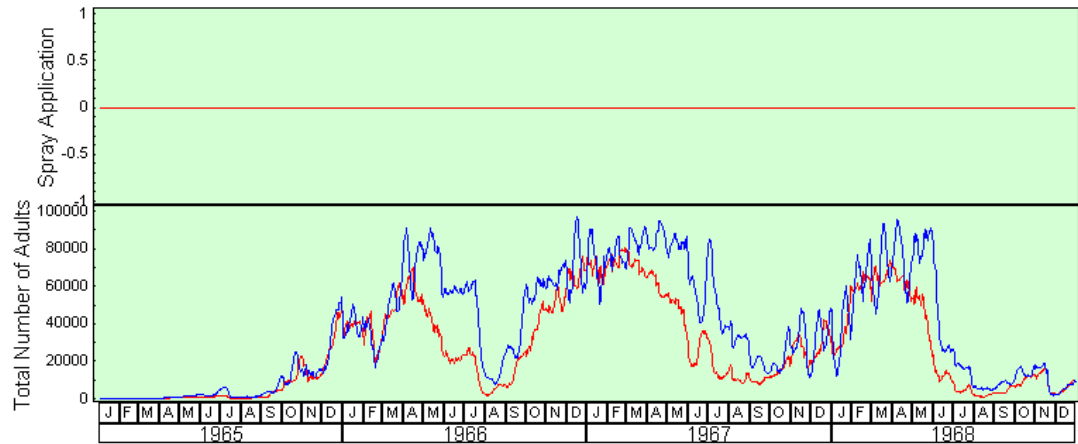

Figure 10-2 Aphid population over 4 years with no treatment
Click on the “Chart” button or menu item and select the “Population and Spray” chart from the popup menu (the format was saved in the previous tutorial). The chart should appear as in Figure 10-2.
A “Run Sequence” is a series of runs over the same period, but where some variable, parameter or other condition is varied in a systematic way. At the end of this series of runs, the “Run Summary” variables for each run in the series are available for tabulation or charting. In order to control the pseudo-aphid population, insecticide spraying has to be carried out, however the timing of the spray can be important for it to be most effective. Since pseudo-aphid populations rise and fall with the seasons (Figure 10-2), a simple way to find out where a single application of spray would do most good would be to provide a series of treatments, and monitoring the effect of changing the starting time of these treatments. For example, the farmer may want to try 5 sprays, spaced 1 week apart. The treatment regime could be started on 1/1 each year, then 8/1, etc. This would entail 52 runs of the program with the user then comparing the effects of each starting time on the average population. The operation could be done manually by the user, however DYMEX is able to do this automatically using a “Run Sequence”.
- Winter (roughly weeks 20-35) is a particularly bad time to apply the treatments. This might be expected, as an examination of Figure 10-2 shows that fewer aphids are present at that time.